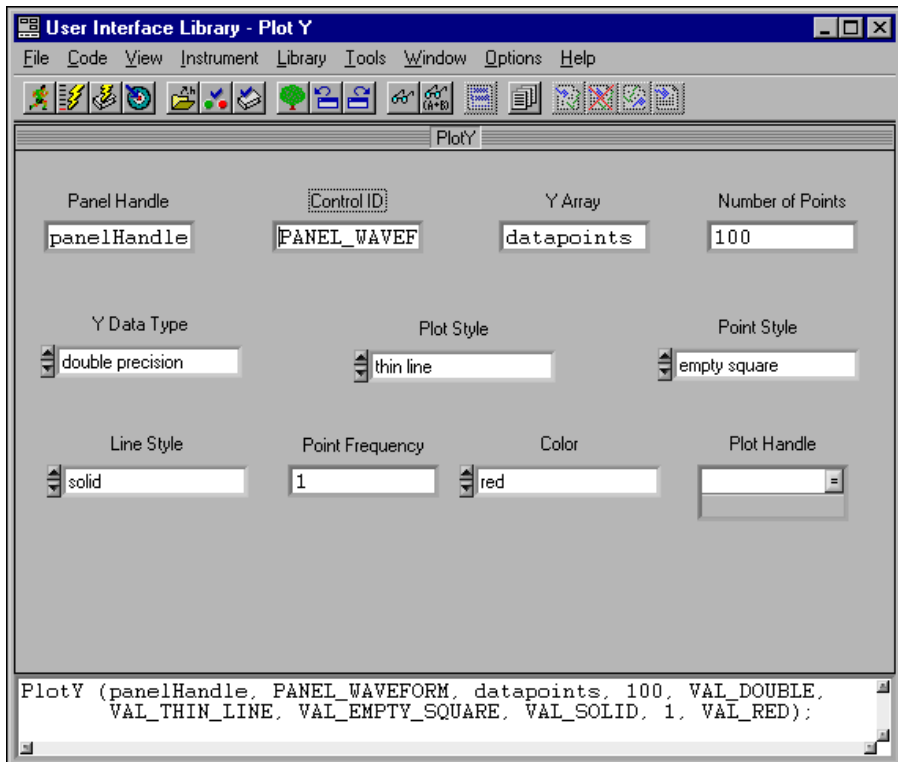

Figure 6-2. Completed Plot Y Function Panel
4. Type 100 into the **Number of Points** control. This number indicates how many elements in the array to plot. When your PlotY function panel matches the one in Figure 6-2, you are ready to go to the next step.